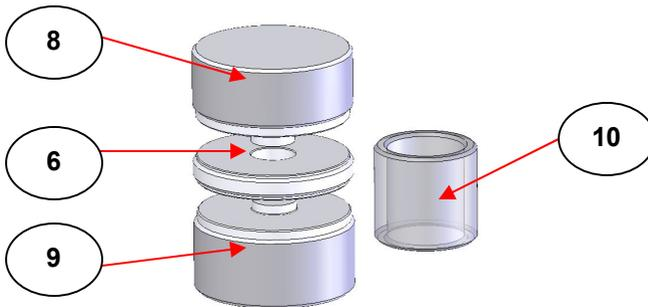

Fig 2. 7mm Pellet Die Assembly Complete
The 7mm pellet die assembly complete (1) consists of a central pellet ring holder (6), top anvil (8), a bottom anvil (9) and a clear Perspex extractor ring cap (10). (See Fig 2.) The top anvil (8) has a longer central “plunger” section than the bottom anvil (9).